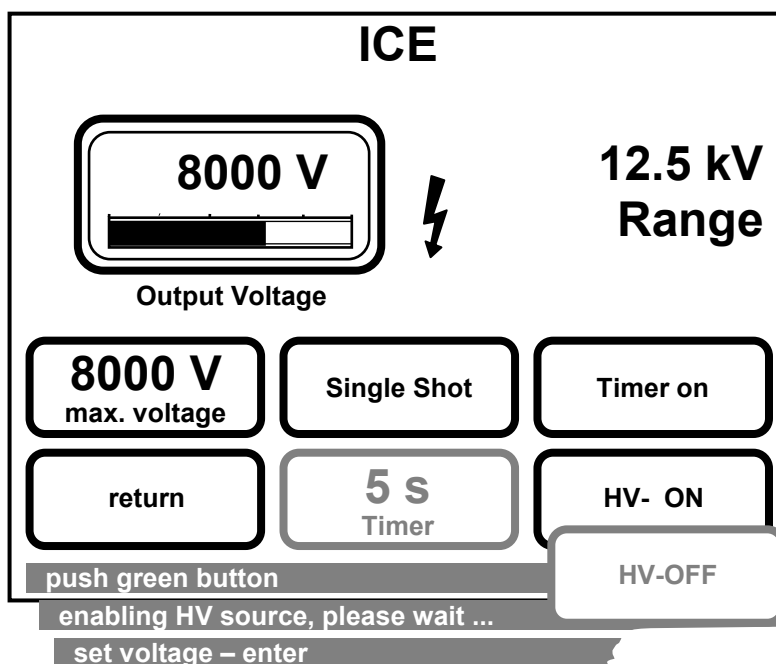

Fig. 14: Menu ICE (impulse current / surge pulse method)
3. After selecting the desired voltage range the above menu appears (Fig. 14: Menu ICE (impulse current / surge pulse method)).